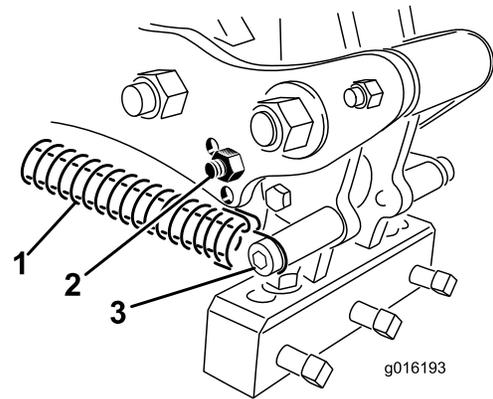

Figure 36
- Release the spring tension to the tine head (Figure 36).
- Remove the bumper bolt and bumper from the linkage arm and reinsert them into the other adjustment hole (Figure 36).